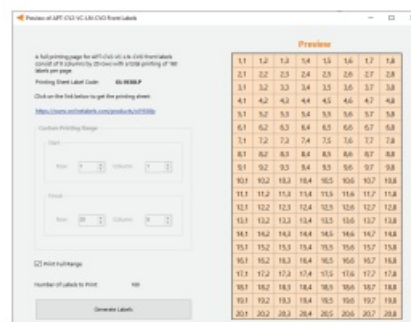

Figure 18: Label generation print preview window
4. Input the starting and finishing rows and columns that will fit on the back or front labels. The selected range is highlighted in blue (Figure 18).